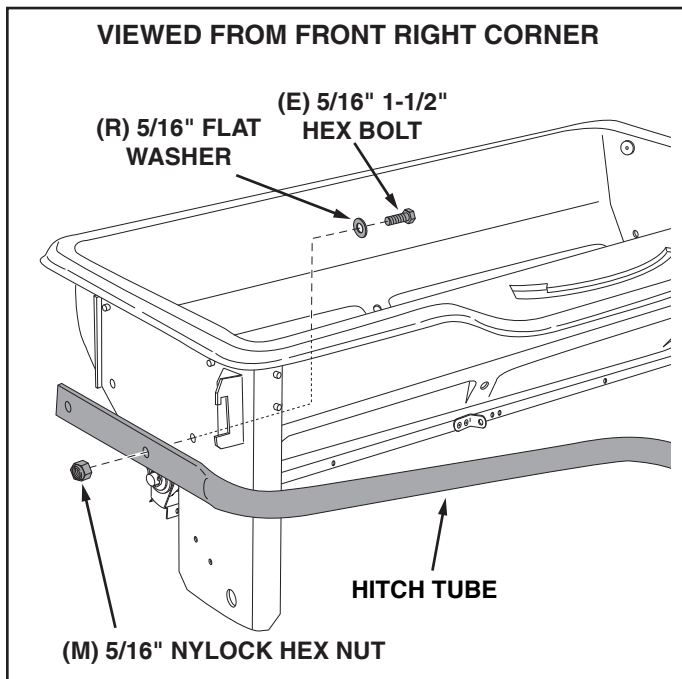

FIGURE 1
2. Attach a hitch tube to the front hole in the right hand side of the hopper using a 5/16" x 1-1/2" hex bolt, a 5/16" flat washer and a 5/16" nylock hex nut. Assemble the bolt and washer from inside the hopper. **Do not tighten yet.** See figure 1.